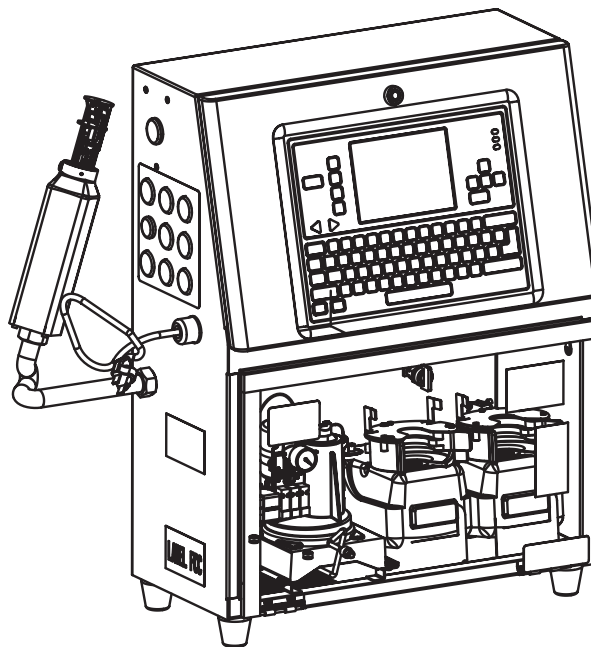

Figure 8-9: Ink System Compartment
- 1 Open the ink compartment door of the printer (Figure 8-9).